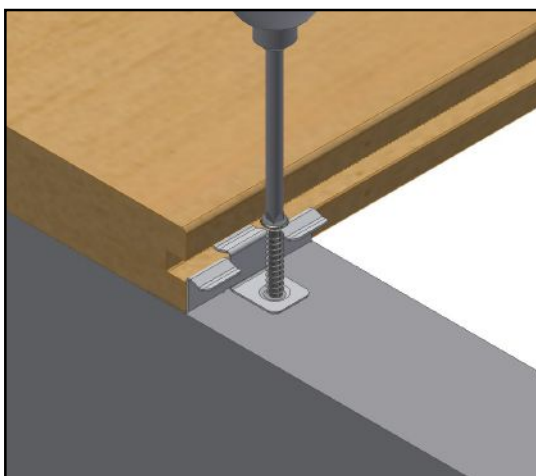

Figure 8
2. As shown in the Figure 8 and 9, pre-drill the joist, then fix the clips with screws.